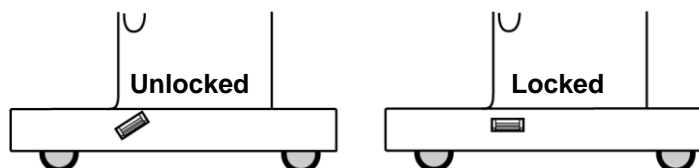

Figure 1: Apply the brake on the machine (right side)
2. Stabilize the machine by applying caster brake to lock wheels (see Figure 1).